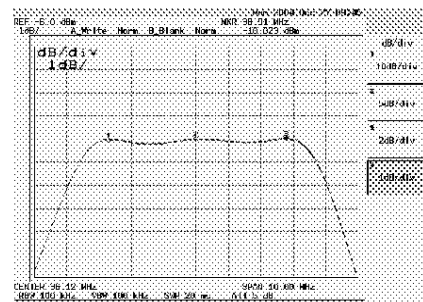
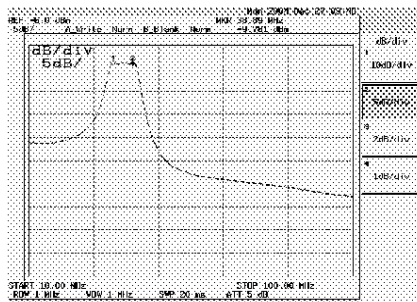

Fig. 4
Fig. 5
- ☐ Set JP3, JP4 and JP5 on and check the response of the filter curve (Fig.4) to the desired passing band, if needed retouch R3, R5 and R7 to correct the ripple in band and C1, C3 and C4 to equalise the group delay of the filter obtaining a frequency response as in Fig.5.